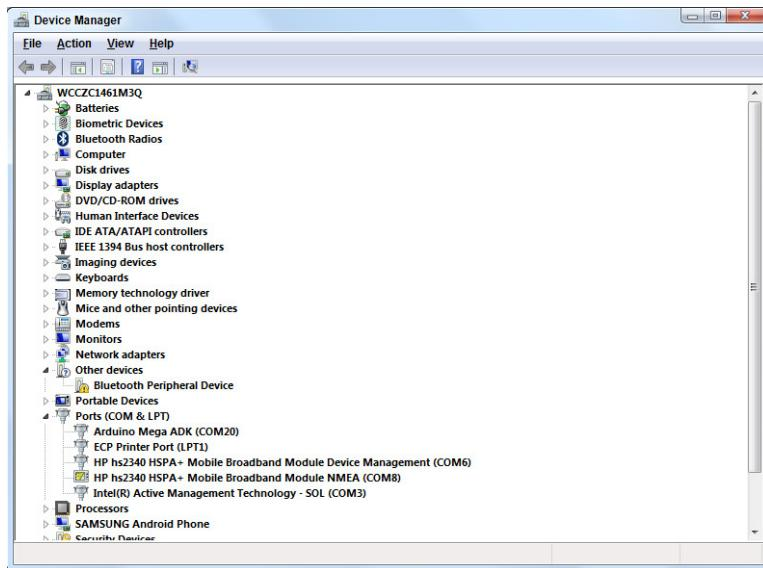

FIGURE 4-14: Find the Arduino Mega ADK port number.
- 4.** Locate the Arduino Mega ADK line and find its port number. In Figure 4-14 the port is COM20.